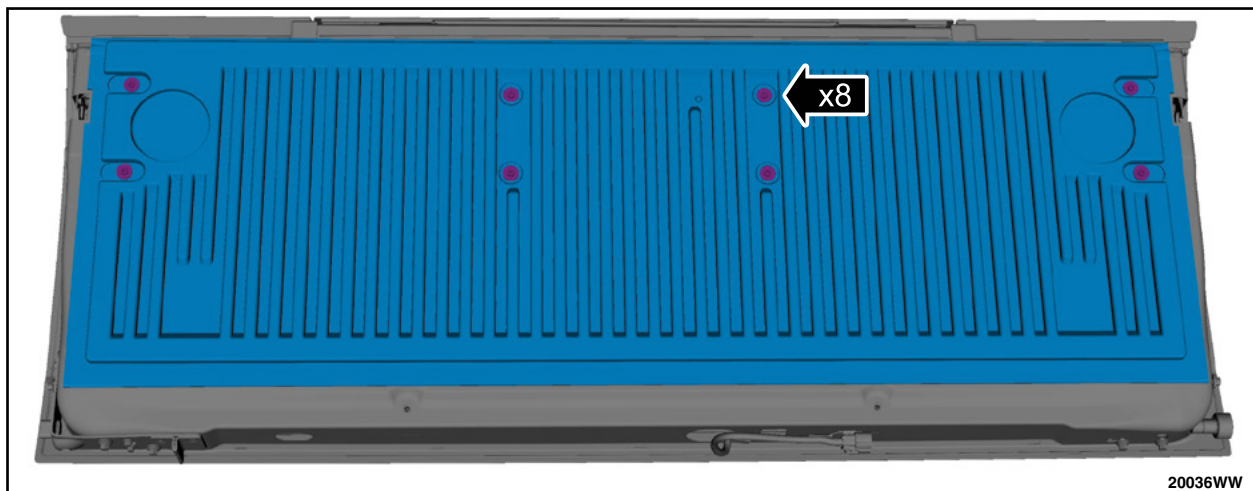

FIGURE 51
71. If equipped, remove the bedliner tailgate cover. See Figure 51.